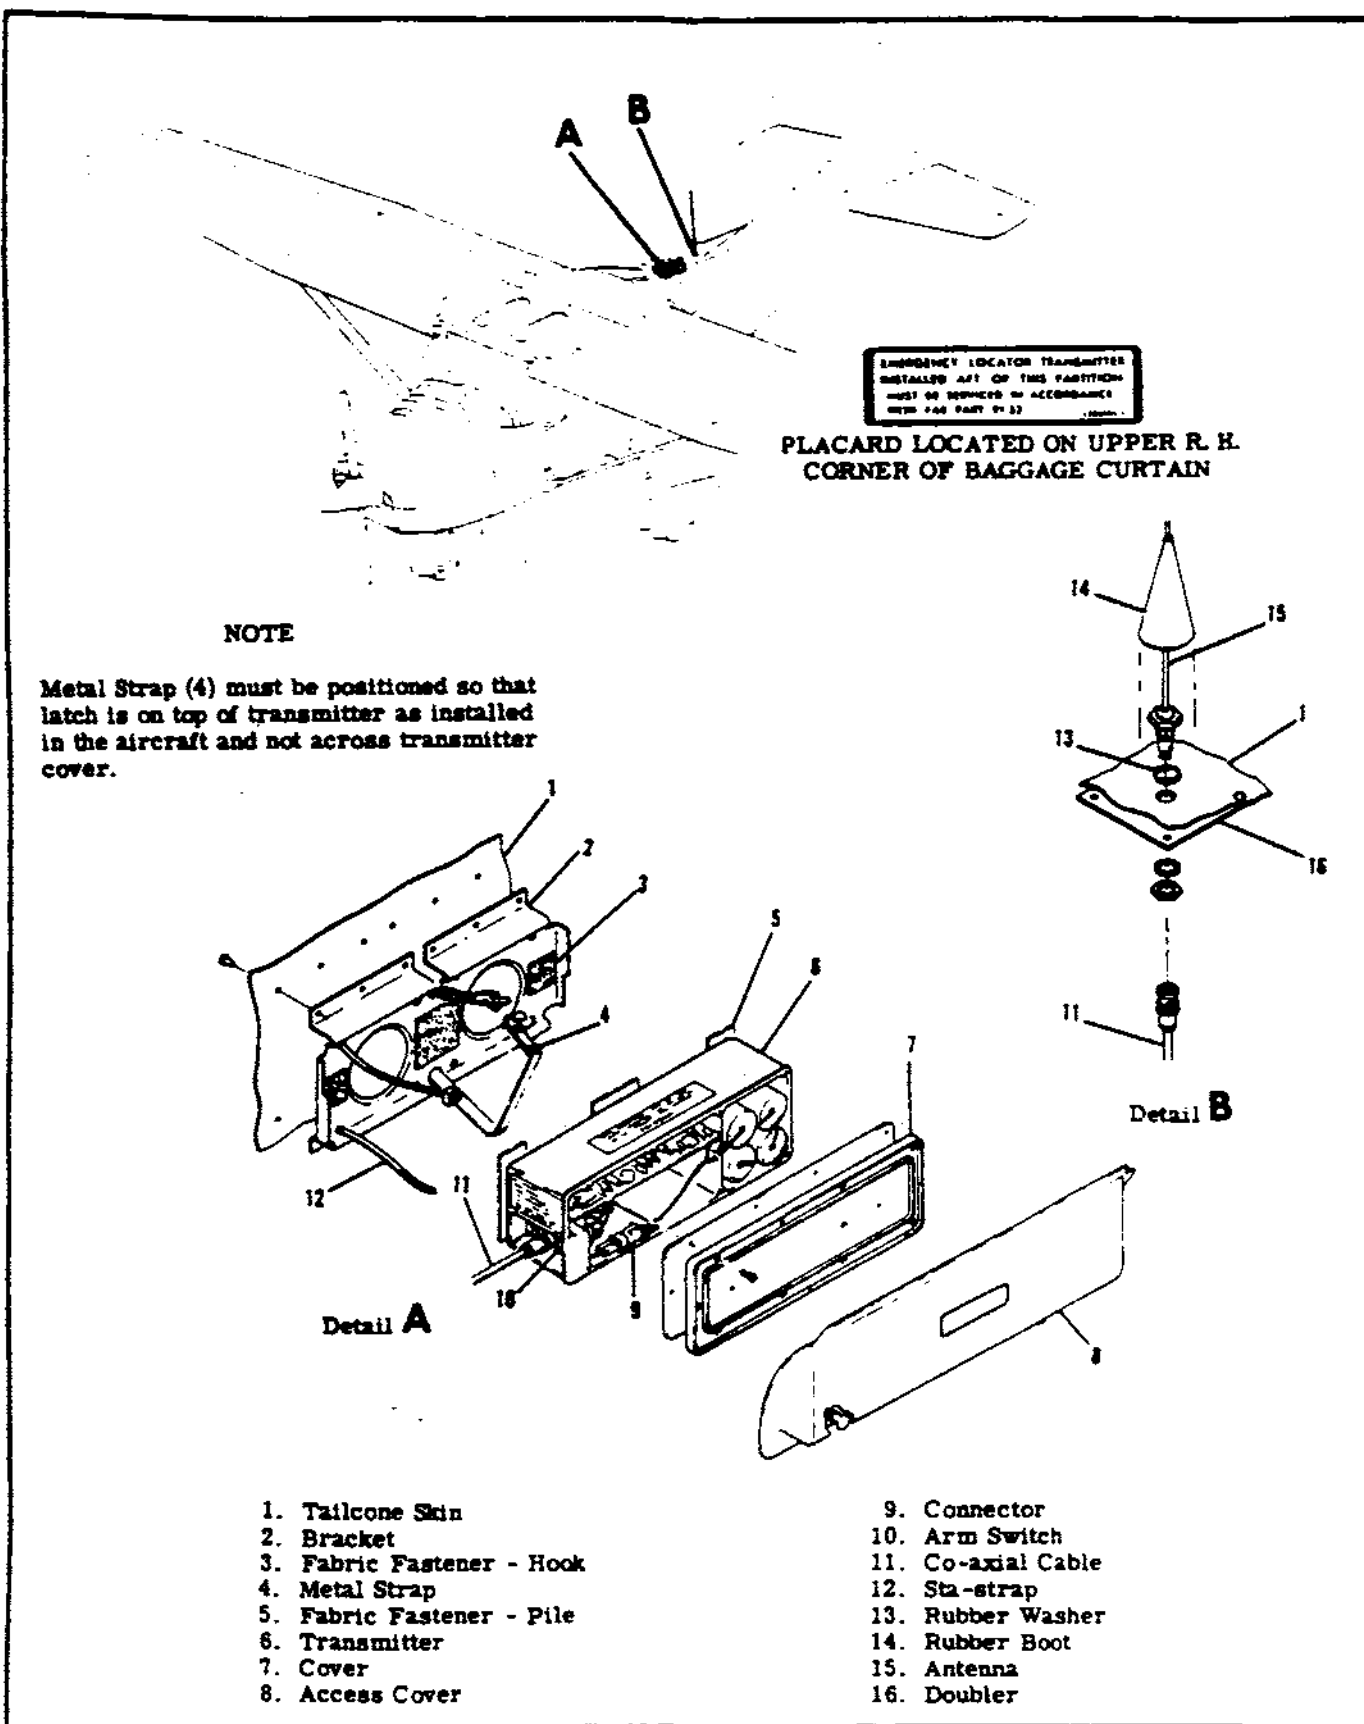

Figure 16-15. Emergency Locator Transmitter Installation
- 16-92. **REMOVAL AND INSTALLATION OF TRANSMITTER.** (See figure 16-15.)
16-93. REMOVAL AND INSTALLATION OF ANTENNA. (See figure 16-15.)